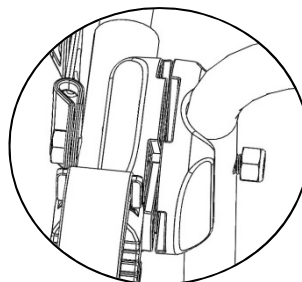

Fig. 5
- Loosen the 5/16" locknuts on the Middle Support Frame. As the locknuts are loosened, the Outer and Inner Supports should begin to separate as shown in Fig 5.
- Once Outer and Inner Supports are separated, swing Support Arms downward to fold. (Fig 5/6)